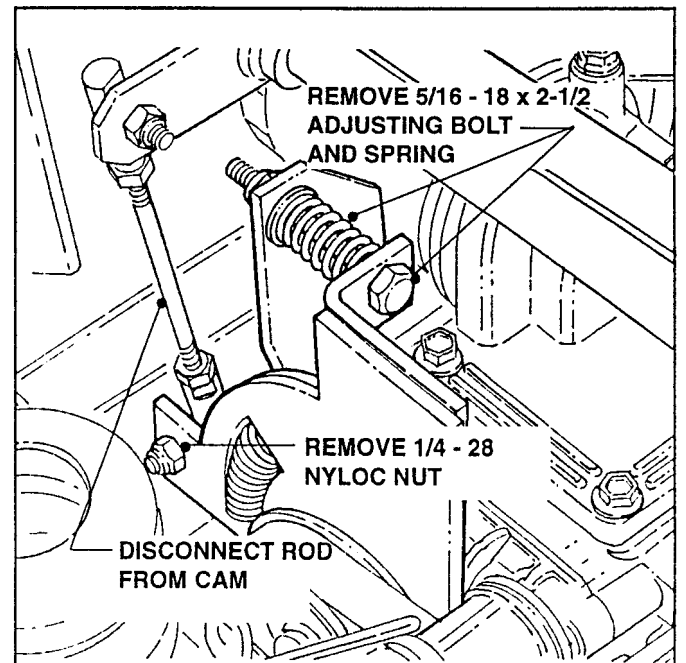

FIGURE 5.9
- Remove the 1/4 - 28 Nyloc Nut from the Control Rod on the Neutral Return Cam. Disconnect Rod from Cam. See Figure 5.9.
- Remove the 5/16 - 18 x 2 1/2" Neutral Return Adjusting Bolt and Spring. See Figure 5.9.